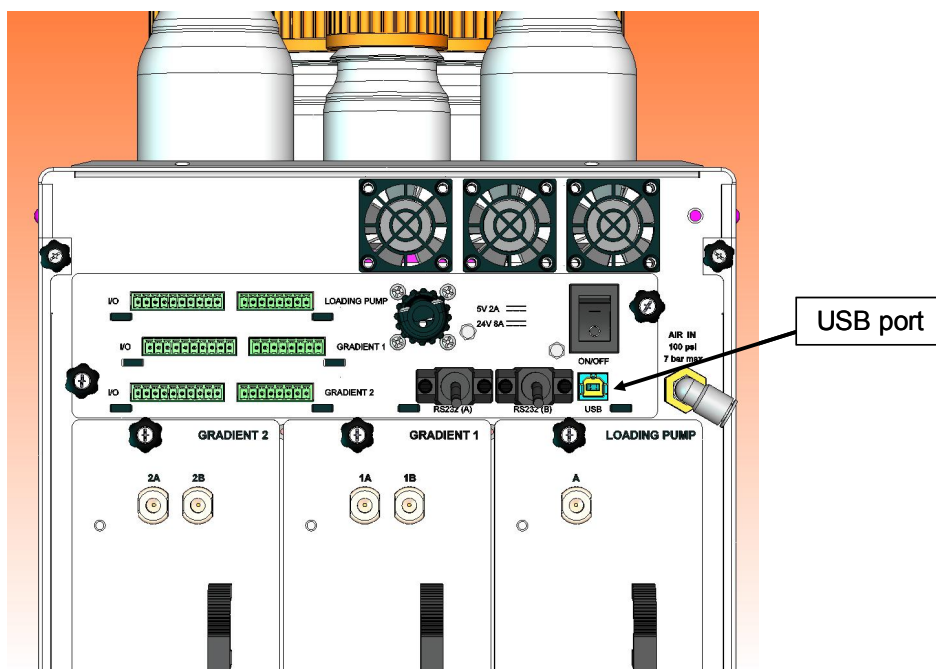

Figure 2-7 Rear Panel—USB Connector
2. Connect the Type B (Figure 2-6) connector of the USB cable to the USB port labeled **USB** on the rear panel of the NanoLC Ultra system (Figure 2-7).